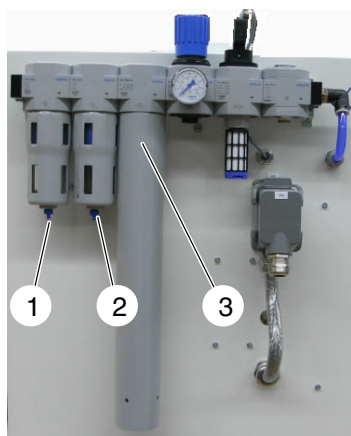

Fig. 5-7
Open the drain valve on the fine filter and the ultra fine filter (1 and 2, Fig. 5-7). Also refer to *Membrane Compressed Air Dryer: Condensate Disposal*.
3. Unscrew the air dryer (3, Fig. 5-7) and replace completely.